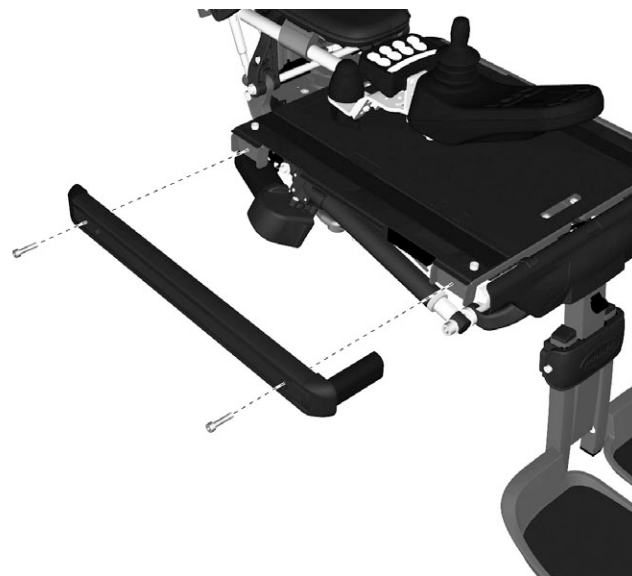

Figure 246. The UniTrack rails are fixed in place with two screws each.
10. Mount UniTrack rails of a suitable length for the seat depth setting. The rails are each held in place by two screws. See the fig. 246. Use a torque wrench to tighten the screws. **Tightening torque 9.8 Nm / 7.2 Ft/lbs.**